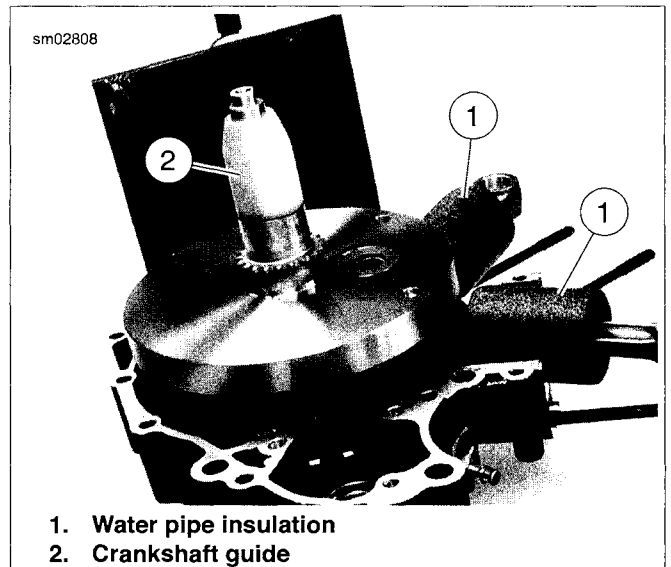

Figure 3-71. Crankshaft Guide (Part No. HD-42326-B)
8. See Figure 3-71. To facilitate assembly and prevent damage to the crankshaft (roller) bearing in the right crankcase half, place CRANKSHAFT GUIDE (Part No. HD-42326-B) (2) over end of crankshaft until it contacts shoulder on shaft.